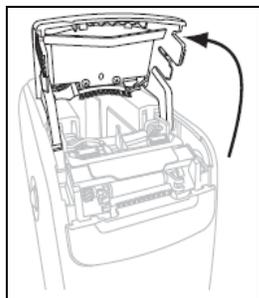

Figure 6
- 4d.) Refer to Figure 6. Rotate the upper cover up and back.